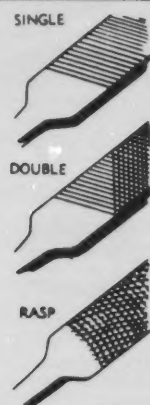

Figure 1-83. Single-Cut, Double-Cut, Rasp-Cut Files
c) A single-cut file has a single set of diagonal rows of teeth. The teeth are parallel throughout the file. (See Figure 1-83.)
d) A double-cut file has two sets of diagonal rows of teeth. The first set is called the over-cut. On top of it a second set crosses the first. The second set is called the upcut and is not as coarse or as deep as the over-cut. (See Figure 1-83.)
e) A rasp-cut file is made by a single-pointed tool, or punch, that forms each tooth separately. The teeth are formed consecutively, side by side, in a row. (See Figure 1-83.)